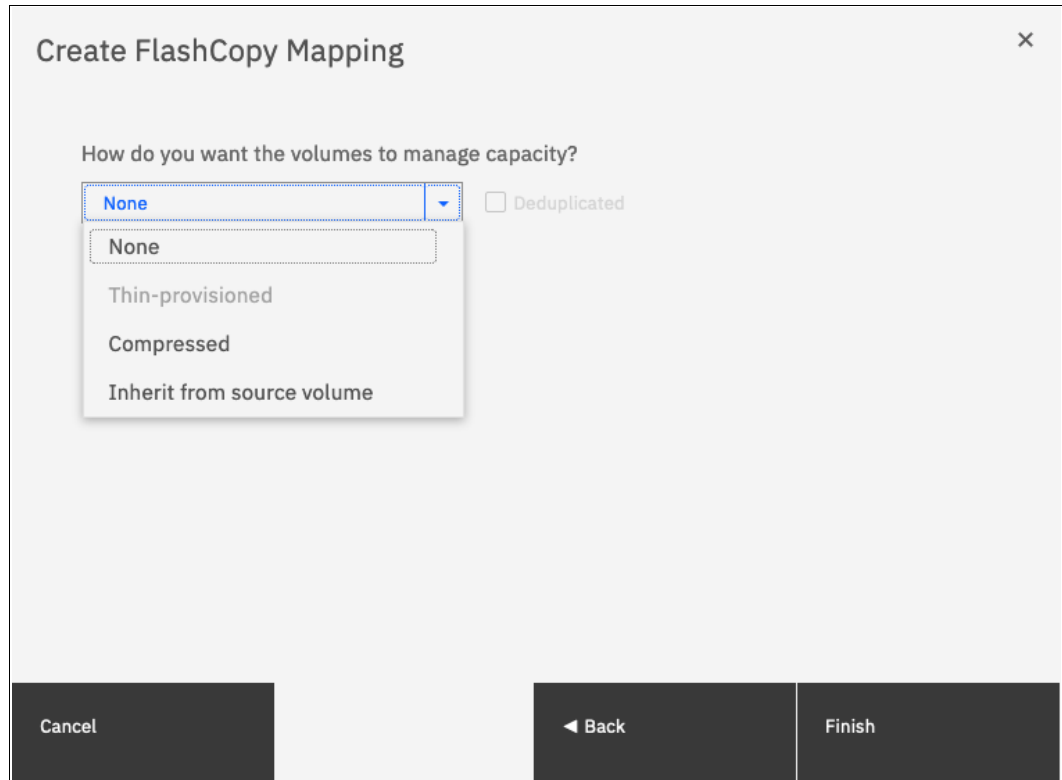

Figure 10-31 Selecting the type of volumes for the created targets
6. The system prompts the user how to define the new volumes that are created, as shown in Figure 10-31 on page 599. It can be None, Thin-provisioned, or Inherit from source volume. If Inherit from source volume is selected, the system checks the type of the source volume and then creates a target of the same type. Click **Finish**.